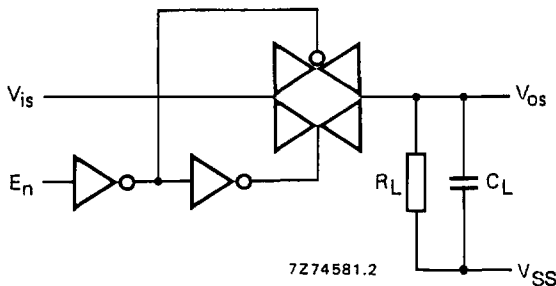

Fig. 6.
1.  $R_L = 10\text{ k}\Omega$  to  $V_{SS}$ ;  $C_L = 50\text{ pF}$  to  $V_{SS}$ ;  $E_n = V_{DD}$ ;  $V_{is} = V_{DD}$  (square-wave); see Figs 6 and 10.
$V_{is} = V_{SS}$  and  $R_L$  to  $V_{DD}$  for  $t_{PLZ}$  and  $t_{PZL}$ ; see Figs 6 and 11.
5.  $R_L = 10\text{ k}\Omega$  to  $V_{SS}$ ;  $C_L = 15\text{ pF}$  to  $V_{SS}$ ;  $E_n = V_{DD}$  (square-wave); crosstalk is  $|V_{os}|$  (peak value); see Fig. 6.